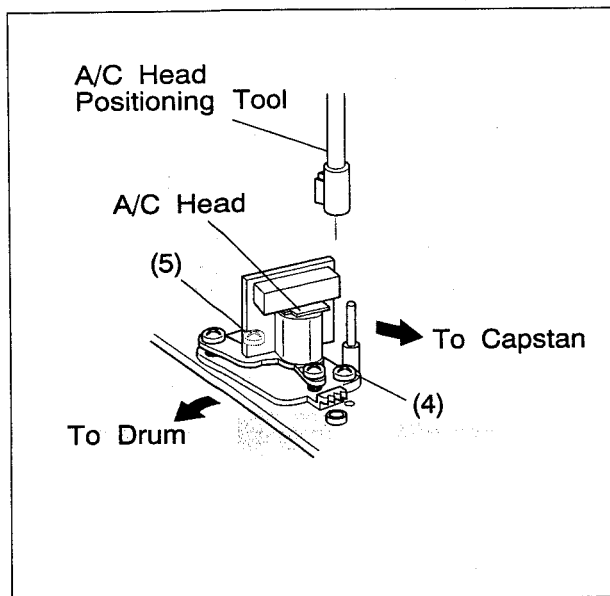

Fig. 2-7-6
- (1) Connect the oscilloscope to TP106(PB FM) on the MAIN board. Use TP111(D.F.F) on the MAIN board as a trigger.
- (2) Playback the SP stairstep portion of the alignment tape [MHPE].
- (3) Set the neutral manual tracking position by pressing the **///** button on the remote controller or TV PROG "-" and "+" buttons simultaneously.
- (4) If adjustment is required, slightly loosen screws (4) and (5). Set A/C head positioning tool on the A/C head adjusting boss as indicated in Fig.2-7-6.